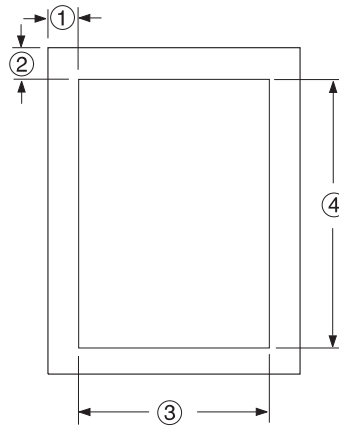

Figure 18. Logical Page Dimensions
**Note:** The parenthetical numbers represent dimensions. Figure 18 on page 35 shows how these dimensions relate to the logical page.